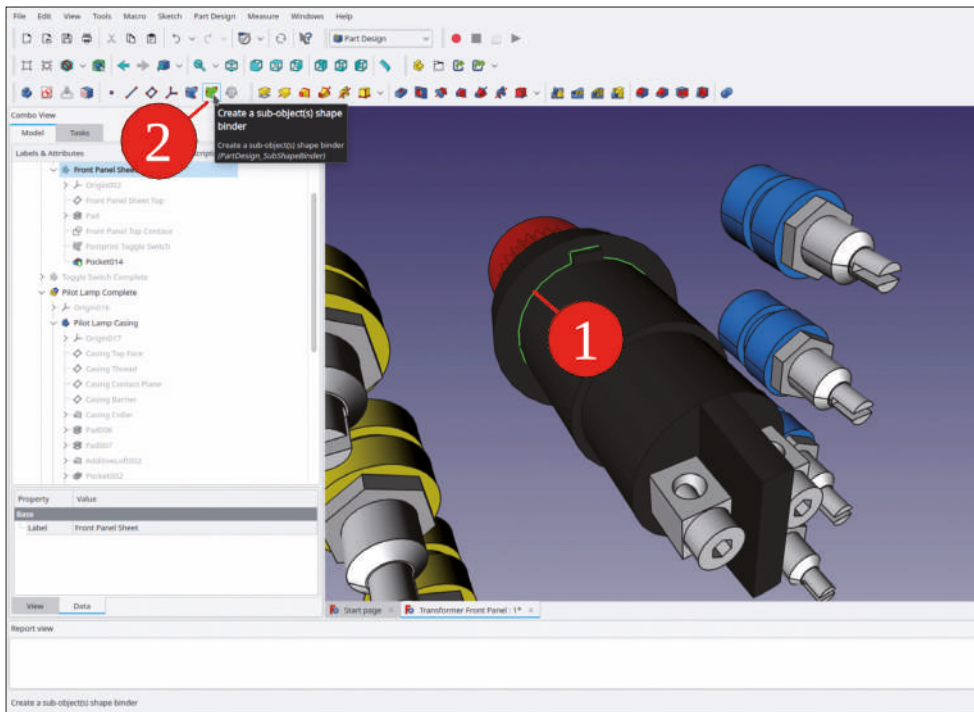

Figure 9-29
8. Holding down the CNTRL key, mark the contour defining the front panel cutout for the pilot lamp. The chain of elements must be a closed loop (Figure 9-29). When you mark something that does not belong to the loop, just click it again to deselect it. Then, click the green 'Create a sub object(s) shape binder' tool button.